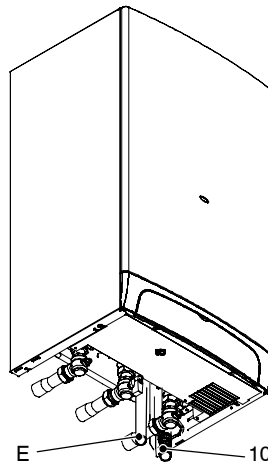

Fig. 6.4
- 6 Connect the pipe E (Fig. 6.4) from the pressure relief valve to the safety discharge pipework.
- 7 Fit the condensate drain 10 (Fig. 6.4) in the air brake connected to the drainage pipework. See also section 5.7 in this manual.